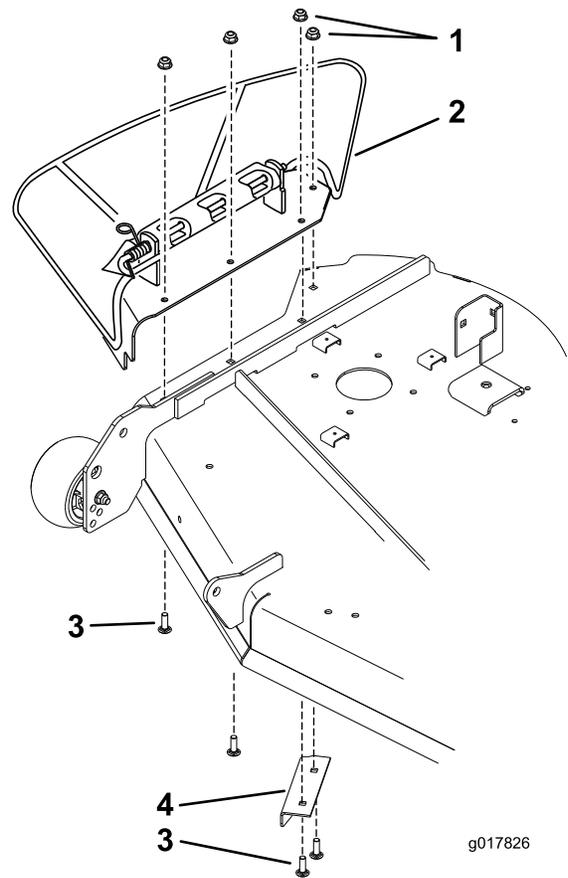

Figure 7
- Remove the plate assembly that includes the side discharge chute (Figure 7). Save this hardware and assembly.
- Remove the existing baffle under the right side of the mower deck (Figure 7). Save the baffle and hardware.